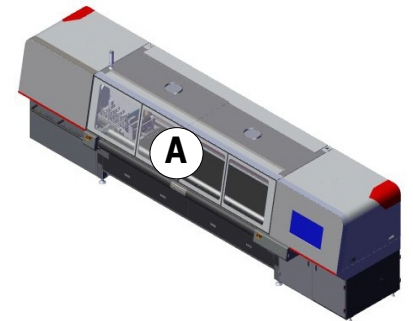

Figure 6-24 Printer Front View
3. Open the printer front door, Figure 6-24 location (A).